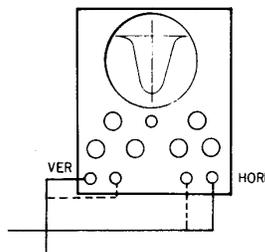

Figure 3-3. AM IF Waveform
3. When the sweep generator frequency is set to 262.5 kHz and its output level is increased, a waveform as shown in figure 3-3 is obtained.
- Adjust the core of each IFT (IFT5, IFT6) so that the peak of the waveform shown in figure 3-3 becomes maximum. At this time, the marker signal must be 262.5 kHz.